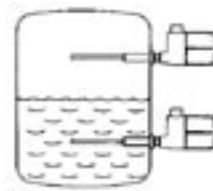
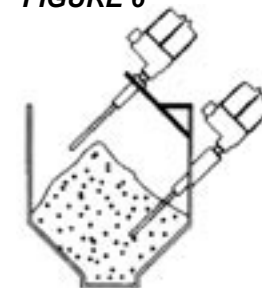

FIGURE 4
FIGURE 8
**Standard configuration** is a 3/4" NPT(M) pipe nipple that threads into a 3/4" NPT(F) vessel nozzle of half coupling. Allow a 4-inch turn radius for the housing. (See Figures 4 and 5.) Sometimes open tanks, vats, sumps or basins require a locally made bracket mount similar to shown in Figure 8.
**Orientation.** The control can be mounted in any position. Sensitivity is optimized when the greatest surface area of the sensor is parallel to the process level. (See Figures 4 & 6.)
When the process is adhesive, i.e. it tends to coat the sensor, it may be desirable to mount the unit on a 45° angle to reduce product build-up and to increase its effective surface area. (See Figures 8 and 9.)